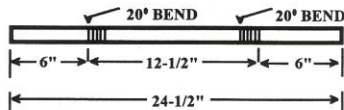
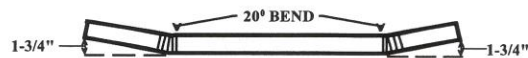

FIGURE 4
FIGURE 5
3. LAY OUT THE FRONT FRAME TUBE 24-1/2" LONG OUT OF 1" TUBING. MARK FOR BENDING AS SHOWN IN FIGURE 4. BEND AS SHOWN IN FIGURE 5.